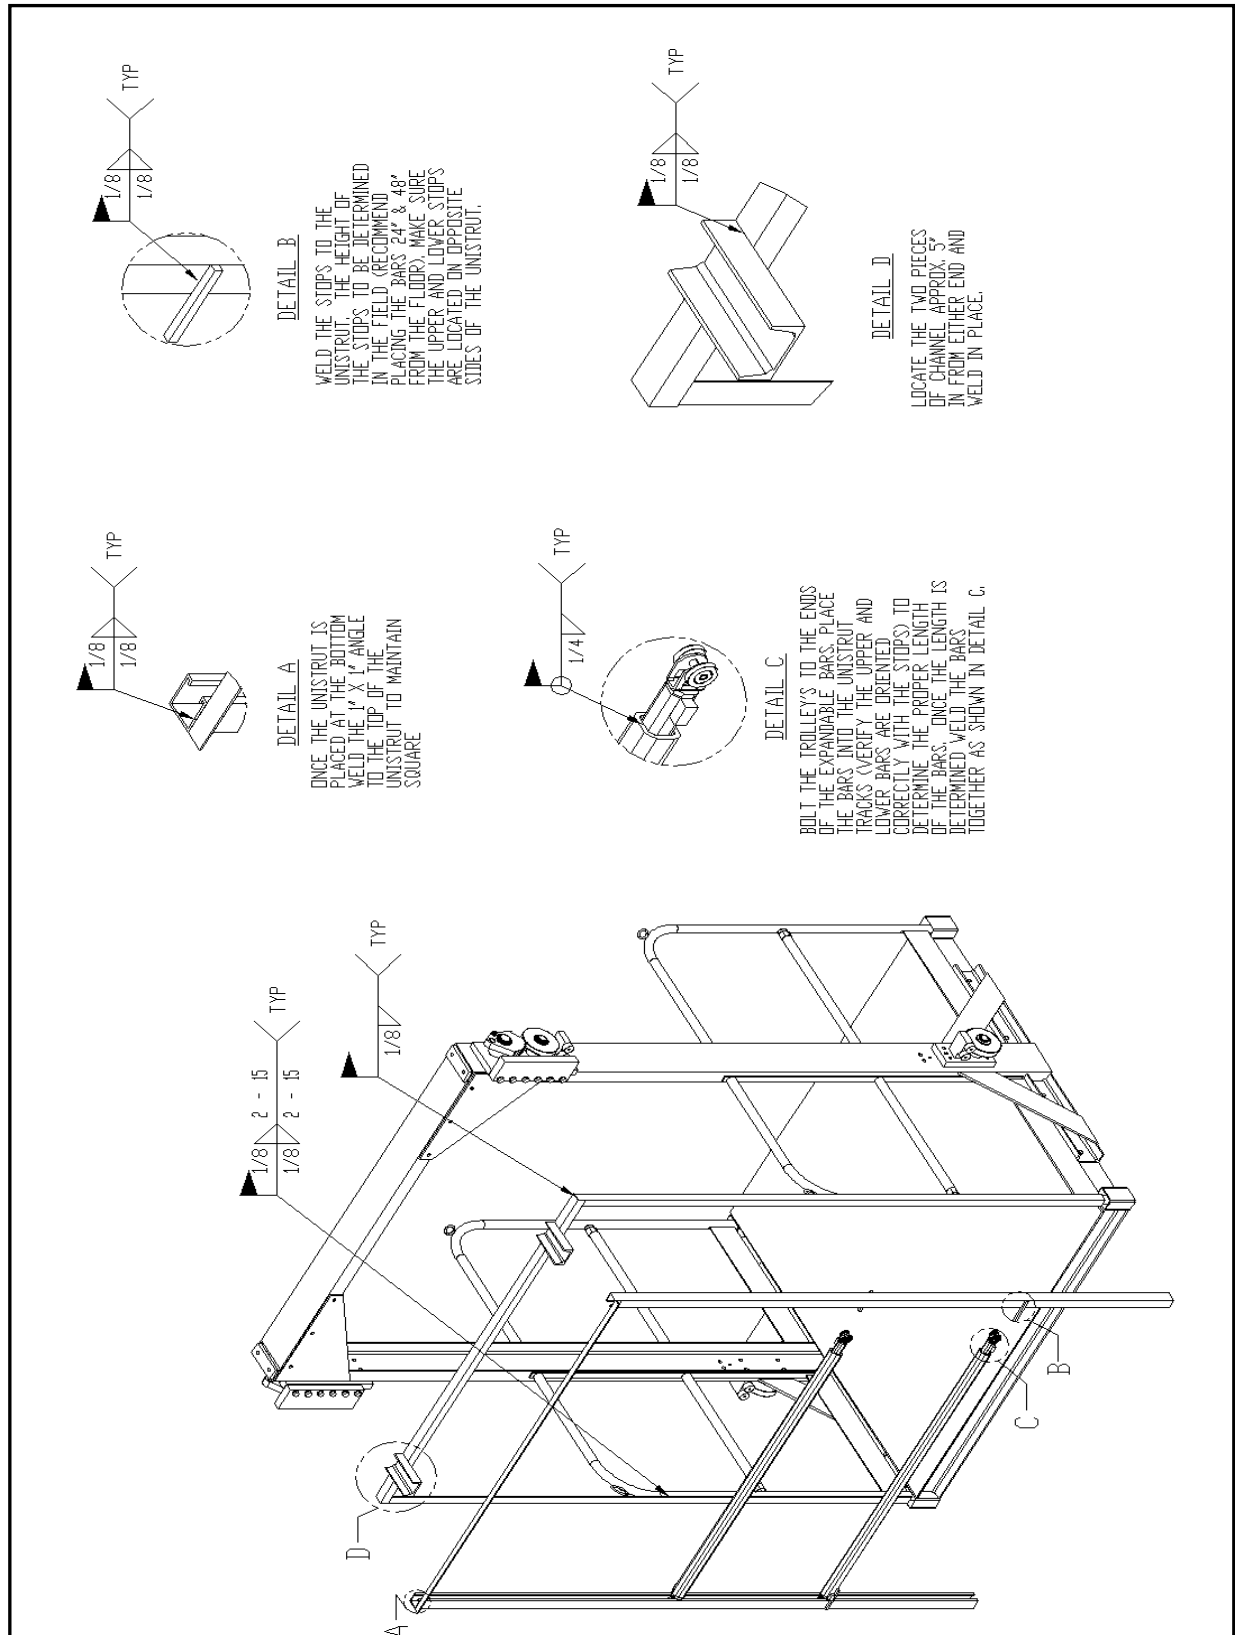

Figure 36 Barrier Bar Installation Details (when required)
Figure 36 illustrates the contents and installation details for the shaftway barrier bar system supplied for units in 2-level shaftway applications. The barrier bar system is designed to leave (1) mid and (1) top rail across the door opening at the upper level when the carriage is called to the lower level.